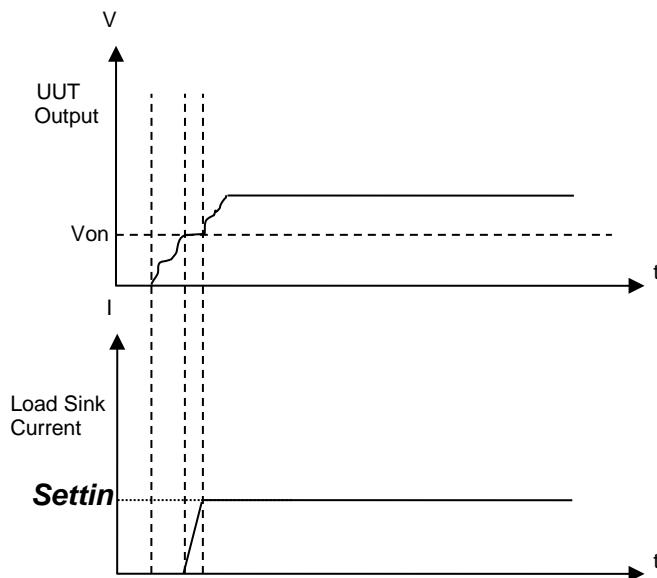

Figure 3-25 When Von Point sets to 0V with Protection
- (2) When the Von Point is set to 0V and protection is selected for LVP during “LOAD ON”, the Electronic Load starts current loading when the SW is off and the external voltage is over the protection voltage. Current overshoot will not occur under this circumstance as shown in Figure 3-25.